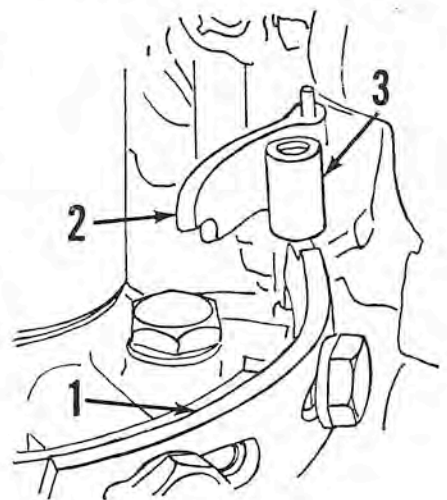

Fig. M79—Speed control mechanism used on Mark 30 & 55 series. Refer to text for details.
Mark 30 and 55 Series: Make certain that magneto is properly timed and adjusted; then adjust carburetor to obtain a smooth idle speed of 600 rpm. Loosen the cap screws retaining the actuating bracket (1—Fig. M79) to magneto frame and slide the follower roller (3) away from throttle pick-up (2). With motor at operating temperature, shift to forward gear and move the speed control lever until engine speed increases to 1000-1100 rpm for Mark 30, 30E, 30H or Mark 55H with Tillotson carburetor; 1100-1200 rpm for Mark 55 and 55E; or 2000-2400 rpm for Mark 55H with Carter carburetor. With engine speeds as indicated, move actuating bracket (1) until follower roller (3) just touches throttle pick-up arm (2); then tighten the retaining screws.